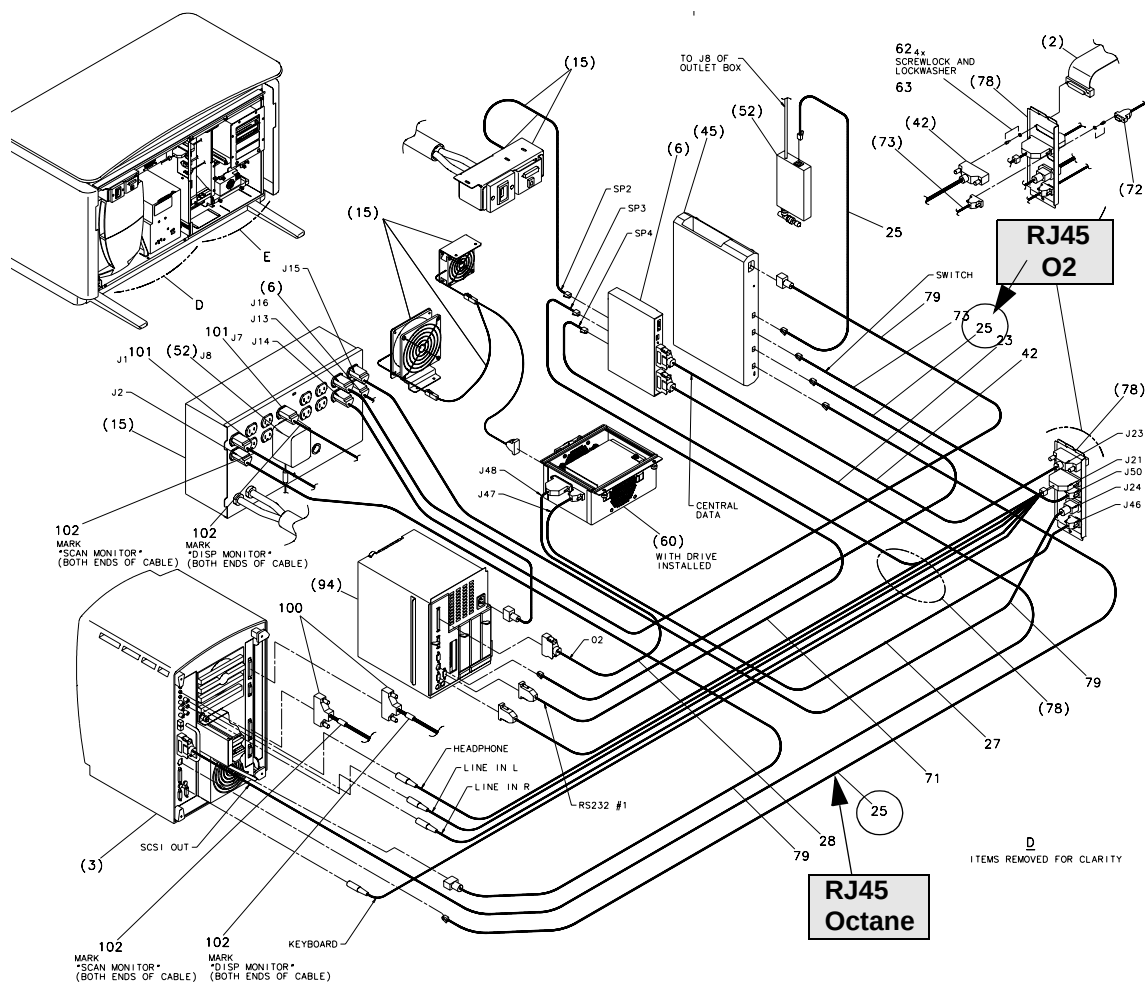

Figure 2-5 Console Assembly (2180551, Sheet 3, Rev)
- 2.) Replace the RJ45 Cables with the new ones provided in the FMI kit. Refer to Figure 2-5. The RJ45 cable is the one mark item 25. There is one for the Octane and one for the O2 computer.